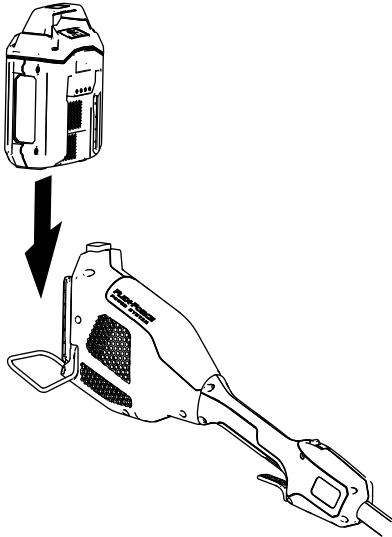

Figure 7
3. Align the cavity in the battery pack with the tongue on the handle housing (Figure 7).